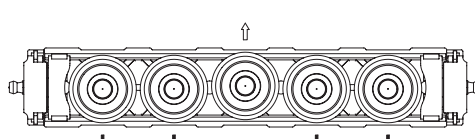

Fig. 32
** The number of roller varies according to the configuration, see pg. CR-18, fig. 32